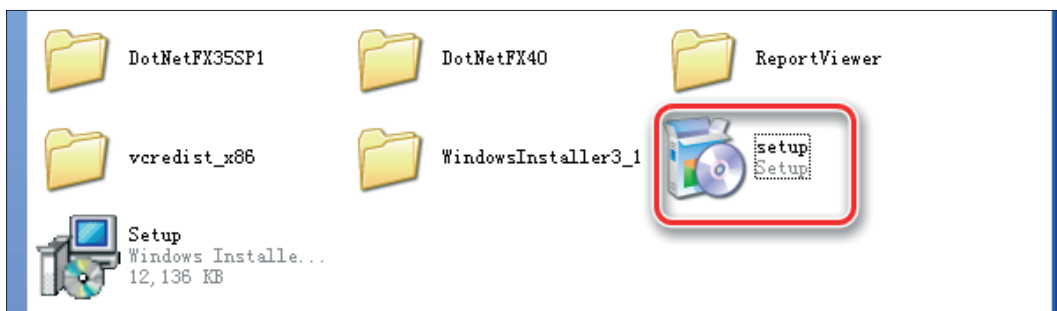

Figure 2-13
2. To install with “One-click”, click the setup.exe. See Figure 2-13: